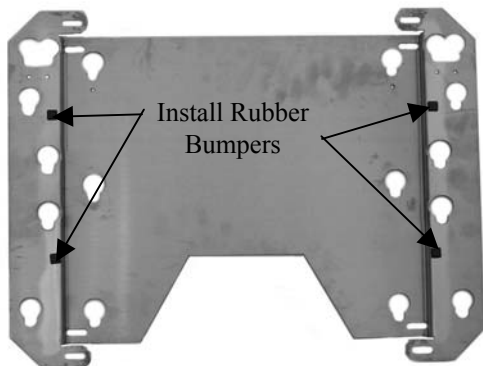

Figure 8
3. Install four rubber bumpers as shown in Figure 8.